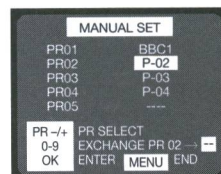

Fig. 2
2. Using the **PR/TRK -** and **+** buttons select a programme number (Fig. 2).